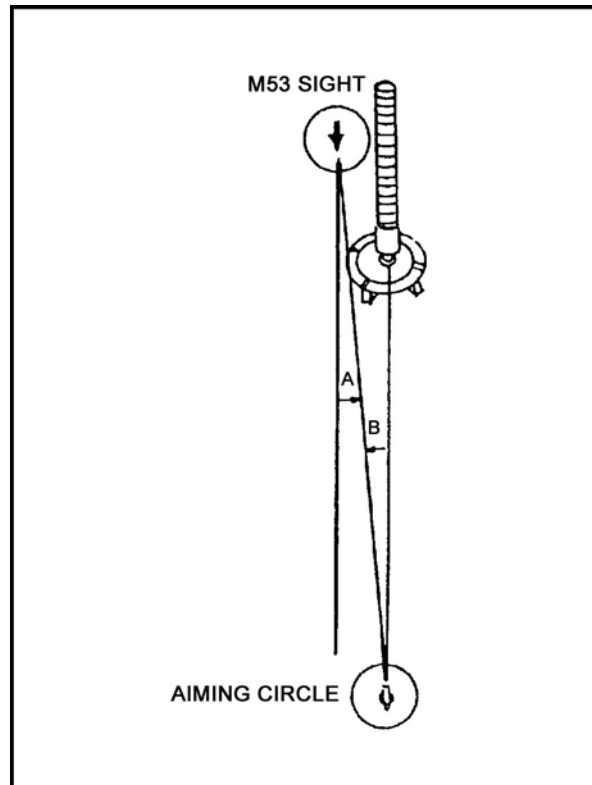

Figure 2. Calibrating the Mortar
- d. The gunner is directed to turn the deflection knob of the sight until the vertical line is centered on the lens of the aiming circle, and angle A is read on the red scale of the sight (Figure 2).
- e. The section sergeant turns the azimuth micrometer knob of the aiming circle until the vertical crossline of the telescope lays on the center of the sight lens. He then reads angle B (Figure 2) opposite the azimuth scale index. If the sight is calibrated, the angles are equal.